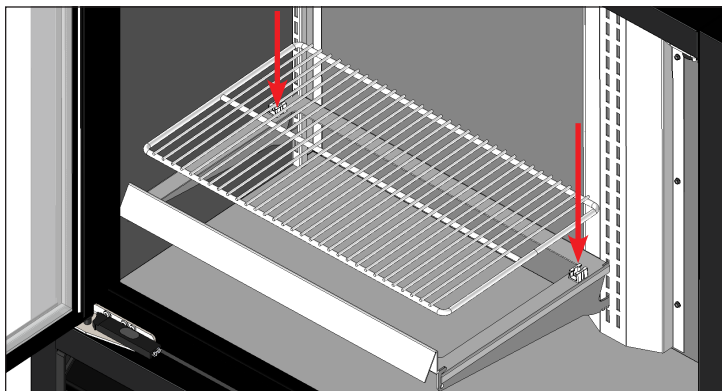

Fig. 8. Snap the wire shelf into the clips.
4. Snap the wire shelf into the shelf support clips. See figs. 8 and 9.